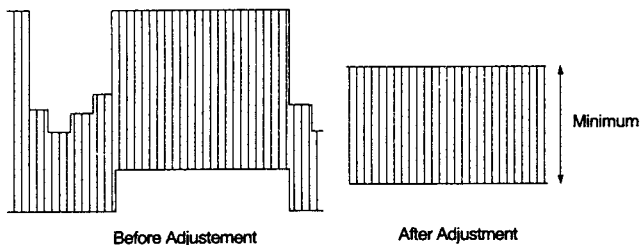

Figure 9
- c) Set the color bar signal amplitude Minimum by controlling the L151 (See Fig.9)